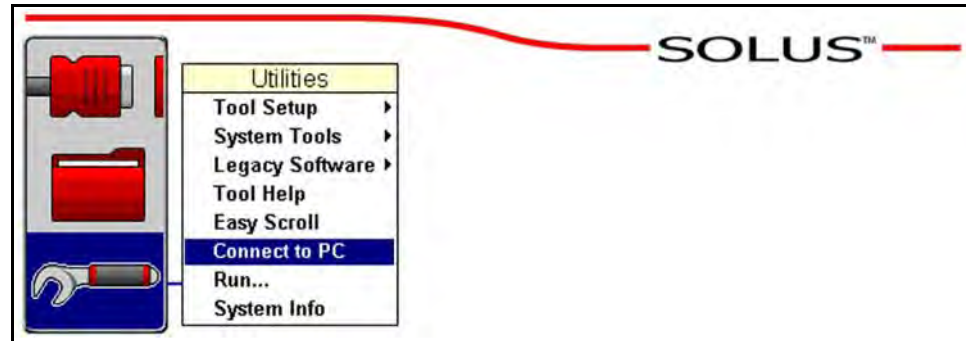

Figure 2-18 Sample SOLUS utilities menu
2. From the Main Menu, navigate to **UTILITIES > Connect to PC** (Figure 2-18).
The screen message shows the tool is ready to connect to a PC (Figure 2-18).